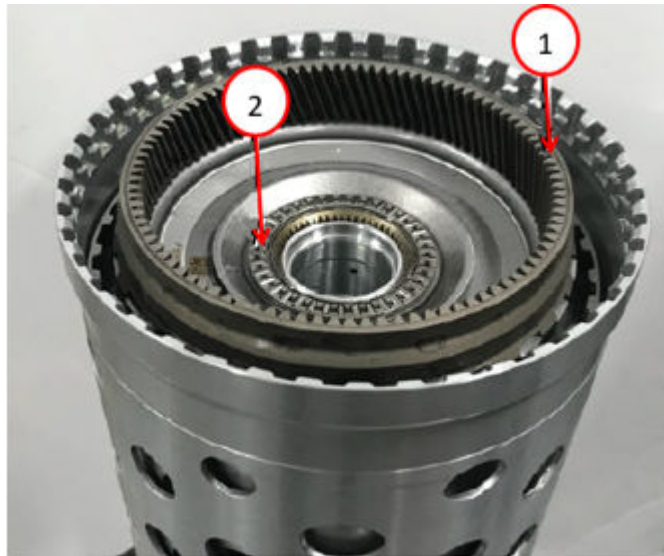

Fig. 23
36. Remove the input shaft with P2 planetary carrier from the drum assembly Fig. 23.